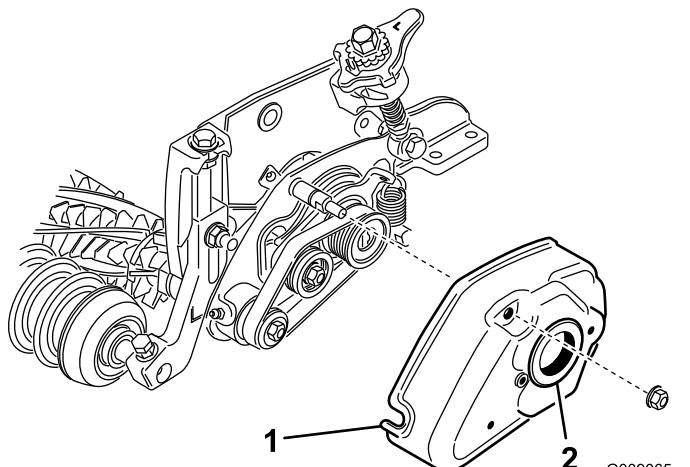

Figure 22
7. Install the groomer cover and secure it with 2 flange nuts (5/16 inch) (Figure 22).
8. Apply grease to the inside diameter of the grommet in the groomer cover (Figure 22).